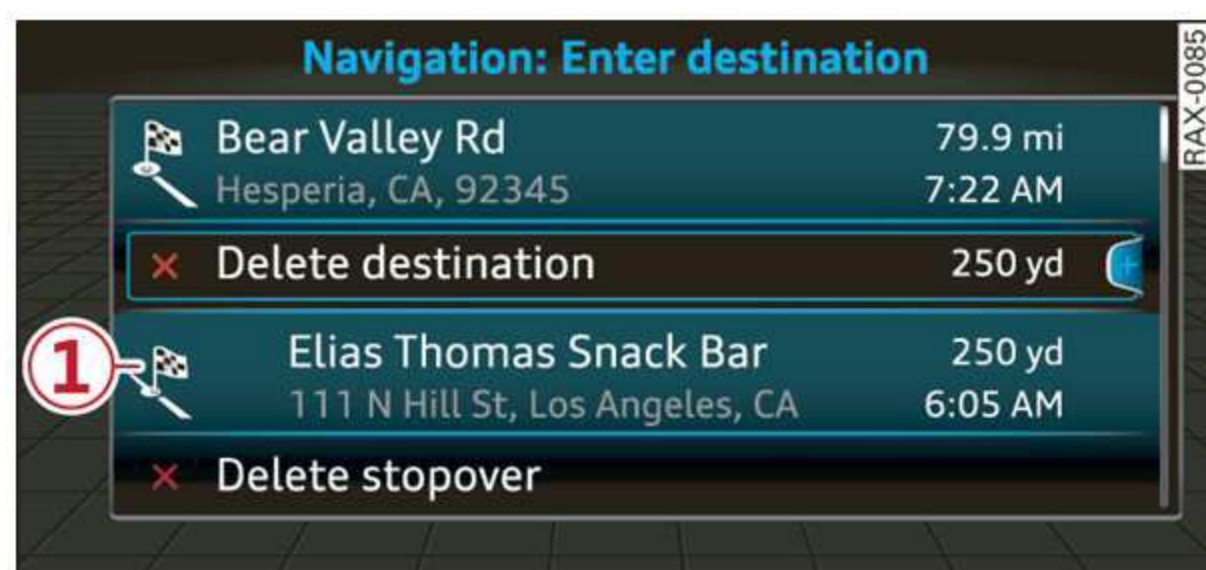

Fig. 120 Example: active route guidance with stopover
- Select and confirm **Delete stopover** ⇒ fig. 120 under the stopover ①.
- ▶ Select and confirm **Delete destination** ⇒ page 137, fig. 120. The destination is deleted. **Or:** Select: right control button > **Cancel route guidance**